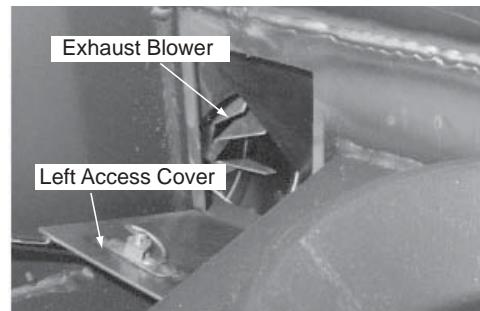

Figure 36.2
4. Clean the exhaust blower blades while the access cover on the left side is still removed. **Figure 36.2.**